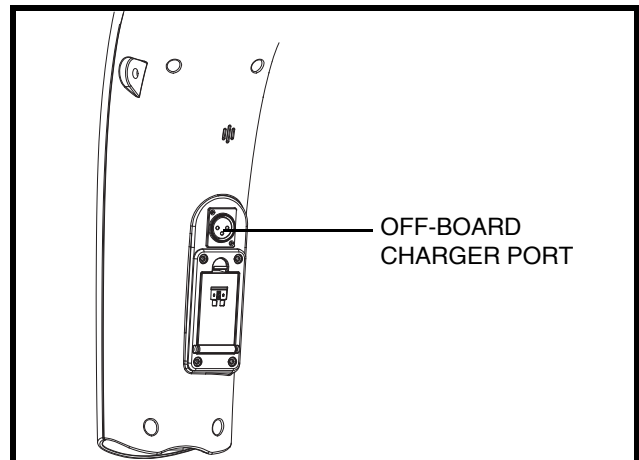

Figure 6. Off-board Charger Port (Tiller Mounted)
The off-board charger power lead plugs into this port during battery charging. The off-board charger port will be located on the tiller. **See figure 6.**
4. Plug the 3-pin charger power lead into the off-board charger port. **See figures 6 and 12.**